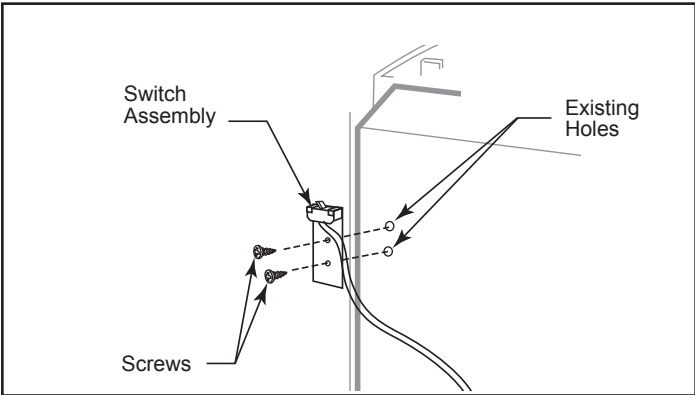

Figure 46 - Attach switch assembly to rear shroud
- 1. Attach switch assembly to left rear side of stove shroud (when facing shroud) using two screws and existing holes in shroud. (Figure 46)